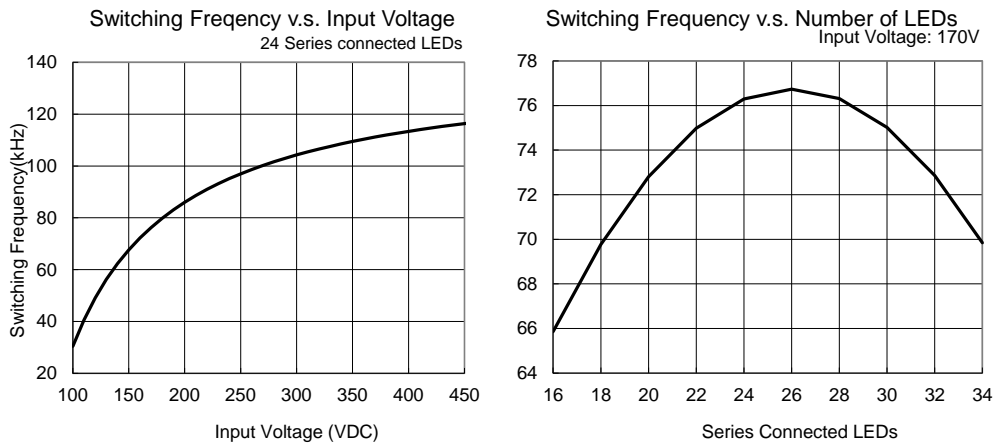

Figure 4. Examples of Switching Frequency Change by Input Voltage and Number of LEDs
Figure 4 shows examples of the frequency change when the input voltage and the number of LEDs connected in series (VF) are changed. In order to keep the frequency within desired switching frequency range,  $L_1$  and  $\Delta I_{L1}$  need to be configured properly.